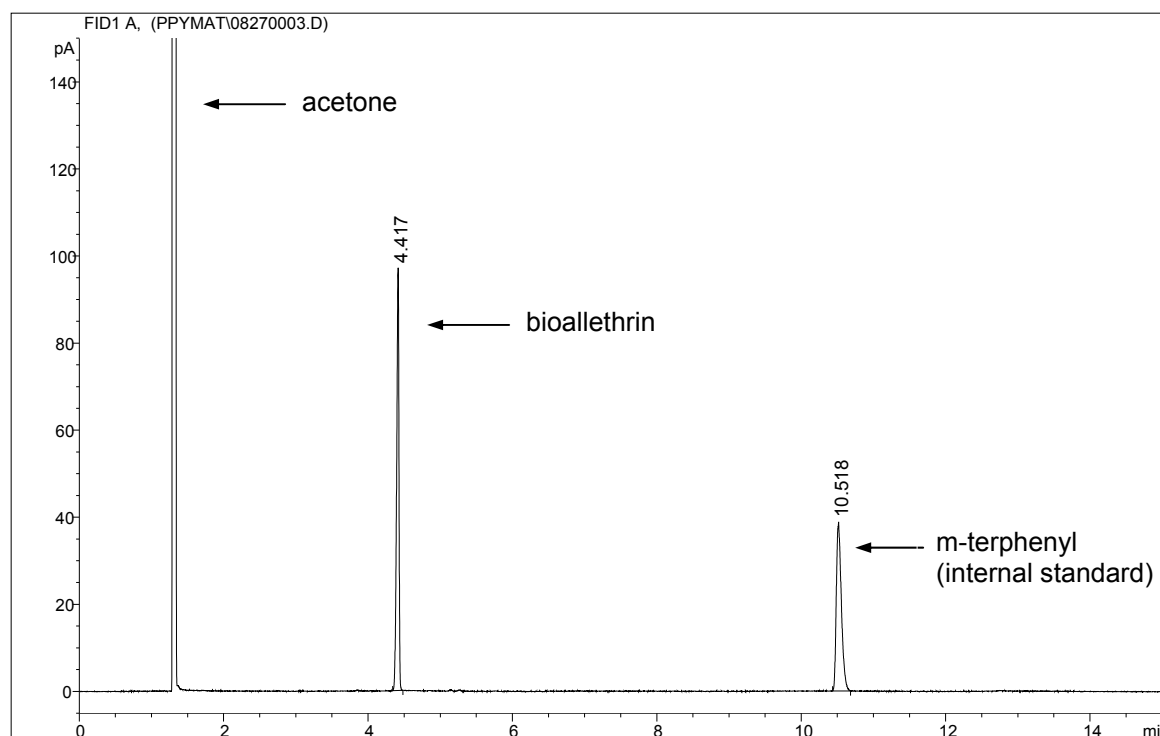

Fig. 30 Gas chromatogram of esbiothrin TC
2.1 GLC. Use the GLC method below. The relative retention time of esbiothrin with respect to the internal standard for the sample solution should not deviate by more than 1 % from that for the calibration solution (Fig. 30).